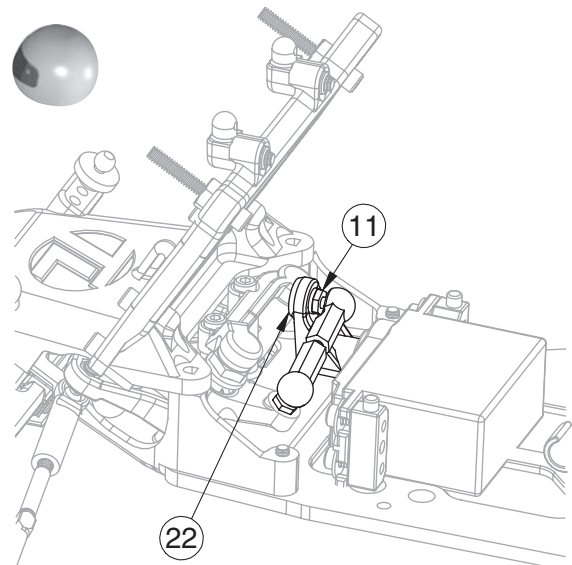

Figure C-7
1. Attach one end of the Servo Link to the Ball Stud (11) in the Servo Arm (22)
2. Attach the opposite end of the Servo Link to the Ball Stud in the Servo Saver top (3) as shown in Figure C-7.